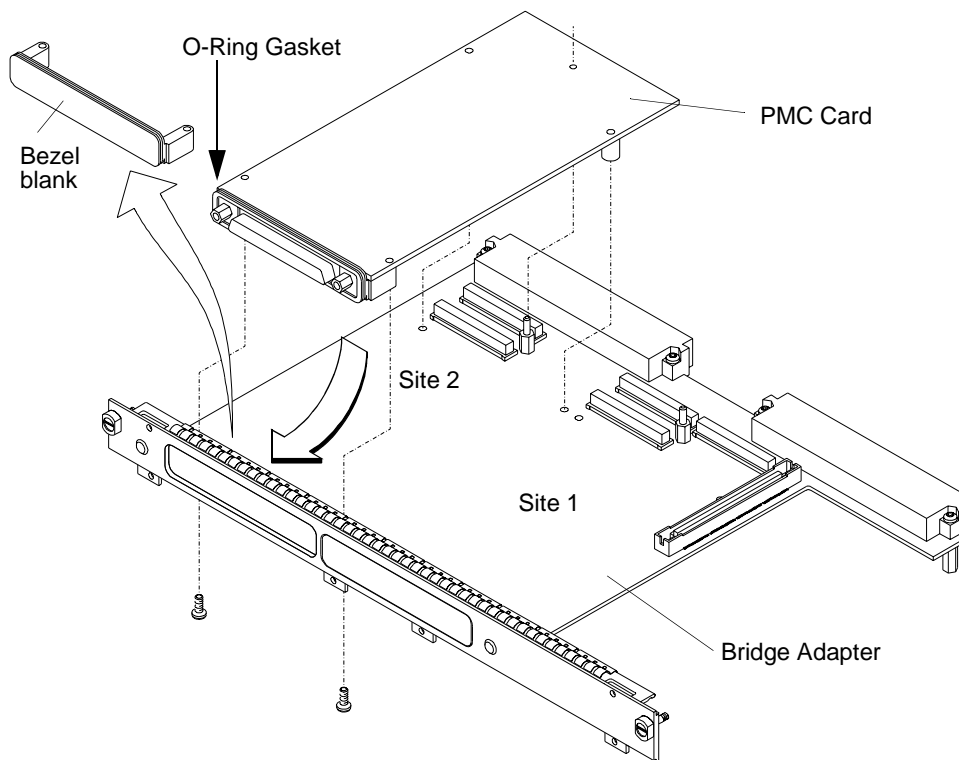

Figure 2-5 **Installing a PMC Card onto the PMC Bridge Adapter**
- 2 On the PMC bridge adapter, at the sites where you will be installing the PMC card(s), remove the two screws that secure the bezel blank(s), and remove the blanks. See Figure 2-5.
- 3 Install the PMC card(s) onto the bridge adapter by aligning the front of the card with the front bezel, and on the rear of the card with the connectors and post. See Figure 2-5. There are four screws that secure the PMC card from the bottom of the bridge adapter.